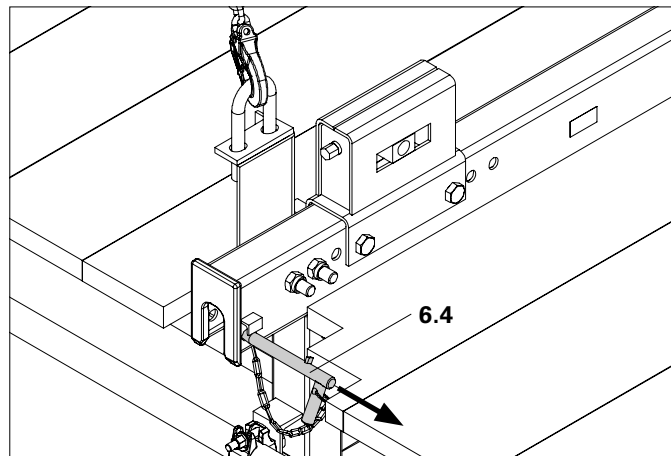

Fig. B1.20
3. Remove securing bolts (6.4). (Fig. B1.20)